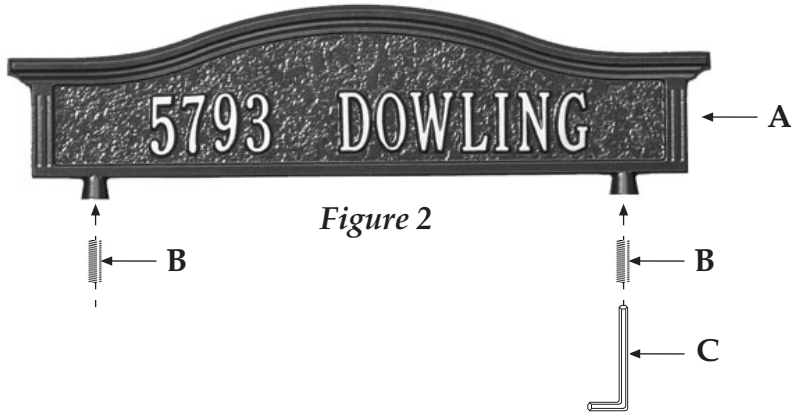

Figure 2
- 2) Insert threaded studs (B) into the Topper legs (A). Tighten with allen wrench (C). *(See Figure 2)*